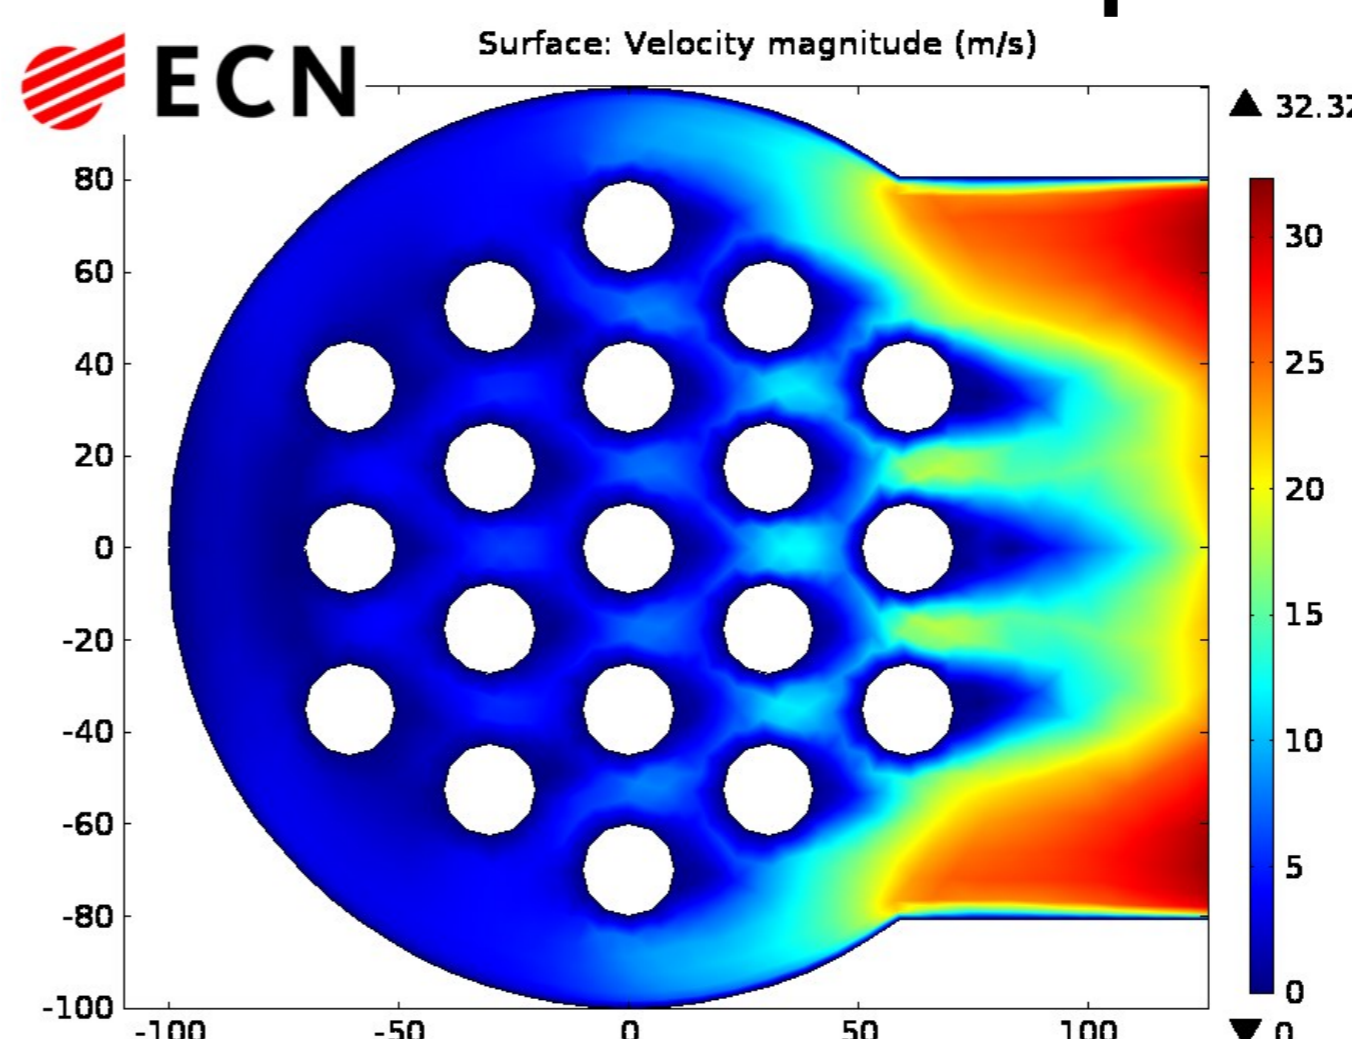

Figure 5. Velocity 19x4
- Velocity maximum 32 m s⁻¹ (Fig. 5)